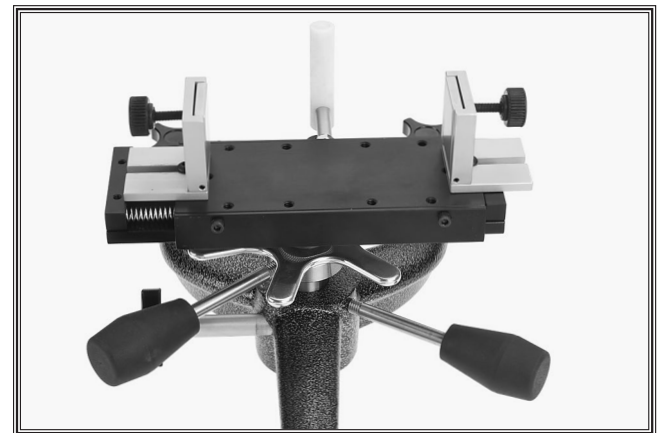

Figure 10. Bag straps removed.
2. Remove (8) button head screws securing bag straps, then remove bag straps (see **Figure 10**).